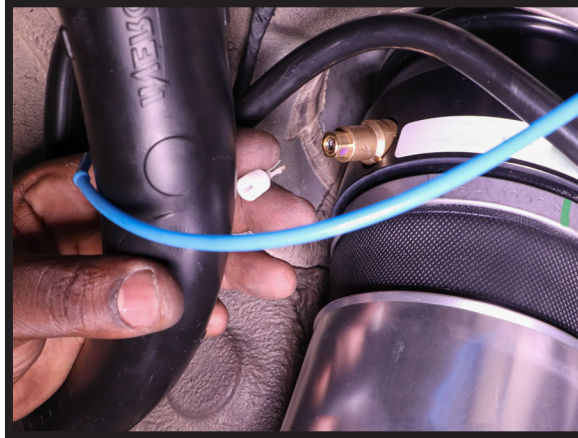

FIGURE 22
3. REMOVE THE WHITE SHIPPING PIN FROM THE AIR FITTING. (FIGURE 22)